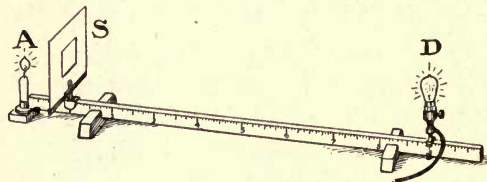

FIG. 197. — A Simple Arrangement for Measuring the Intensity of Light.
**Experiment 64.** — Place a lighted candle *A* at a distance of two decimeters from a screen *S* having in its center a square of oiled paper (Figure 197).